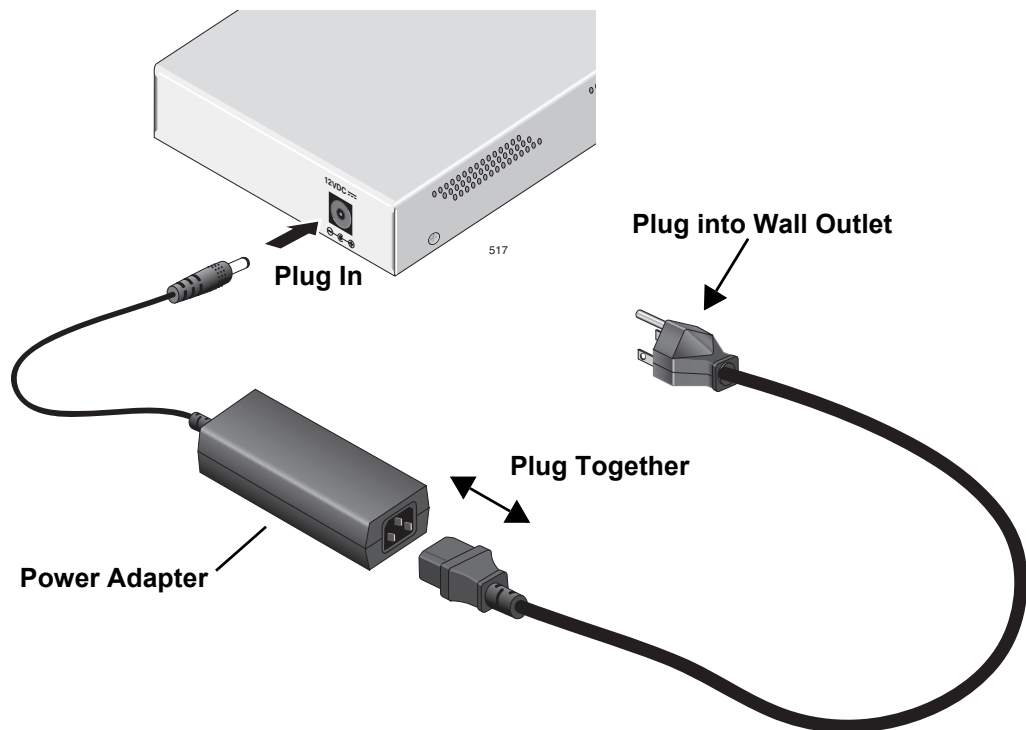

Figure 20. Connecting the Power Adapter and Power Cord
1. Plug one end of the power cord into the socket on the power adapter, plug the other end of the power cord into a power outlet, and plug the pigtail cable on the power adapter into the power connector labeled 12VDC on the back of the converter, as shown in Figure 20.